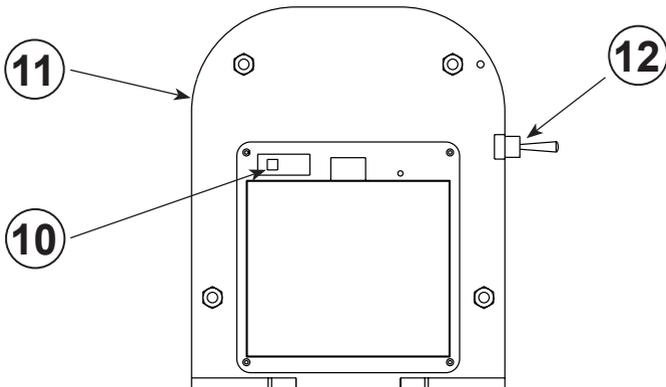

Figure 5.
Use switch **(10)** to turn the machine on (Side LED **(11)** lights) or off. Turn it off when not use to save the batteries. (*fig. 5*)
2. Turn power on using switch (10). LED (11) lights on (fig. 5).
3. Set desired lay using switch (12) (fig. 5).
5. Tie source threads (2) to the hooks (1).
6. Tie the load (3) to loose ends of threads (2).
11. Turn power off using switch (10). LED (11) goes off (fig. 5).
14. Turn power off using switch (10). LED (11) goes off (fig. 5).
MicroUSB socket is located near side LED (11) (fig. 5).